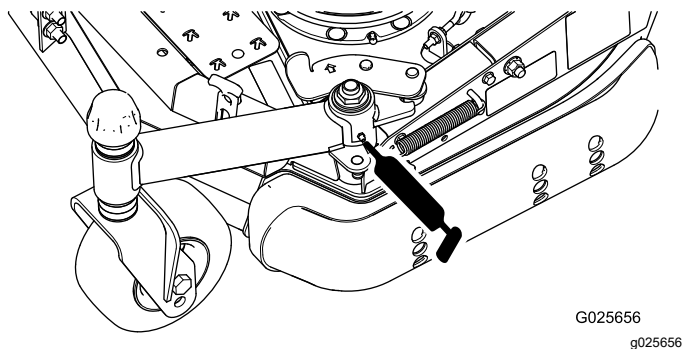

Figure 21
- Pivote de bras pivotant repliable (1) (Figure 21)